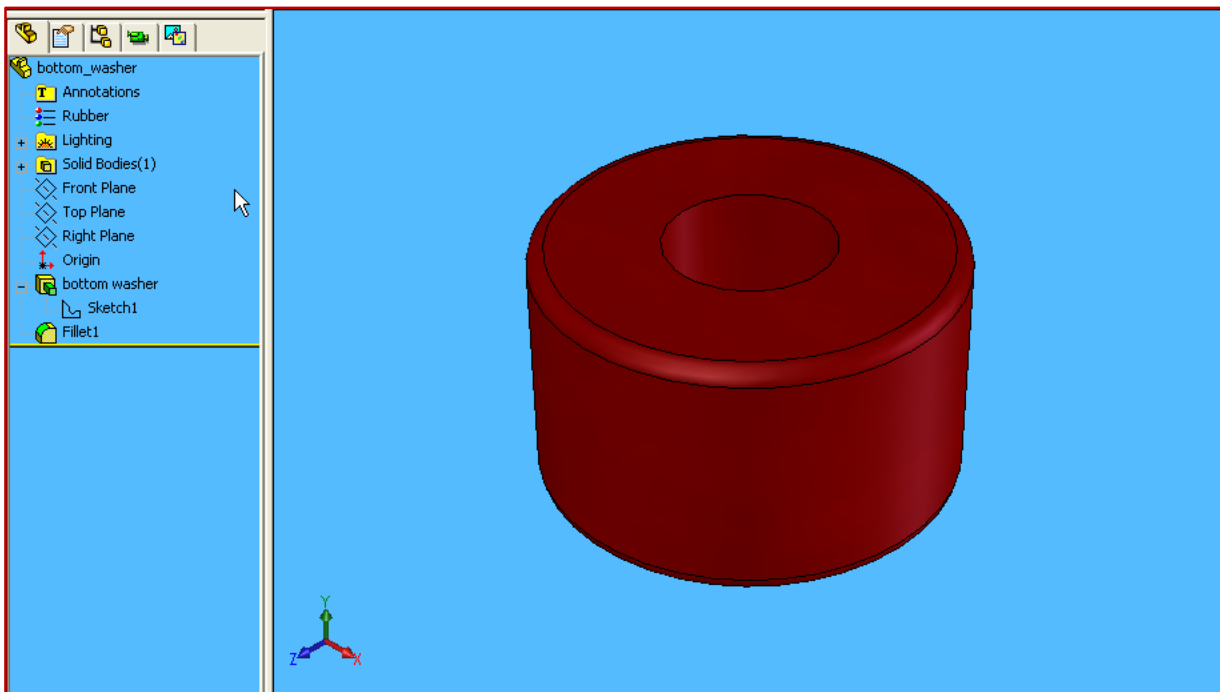

Figure 5.2a – TopSpacer
- ✓ Hold the control key and click each of the edges of the tire, and then click the **Fillet** command on the **Features** tab in the **CommandManager**. The input box will show Edge1 and Edge2 as the items to fillet. Type the radius of the fillet to add a fillet around the edges. The completed spacer is shown in Figure 5.2a.